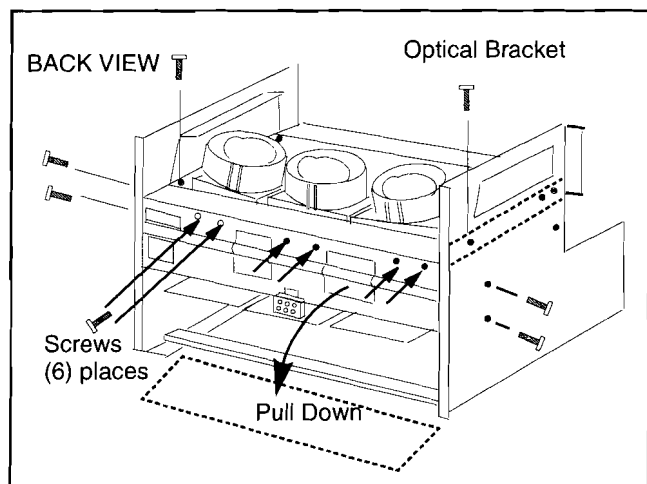

Figure 13. CRT Replacement
2. Remove the Optical bracket metal cover (rear side) by removing (6) screws from back, (2) screws from top, and (2) screws from each side. (Figure 13)